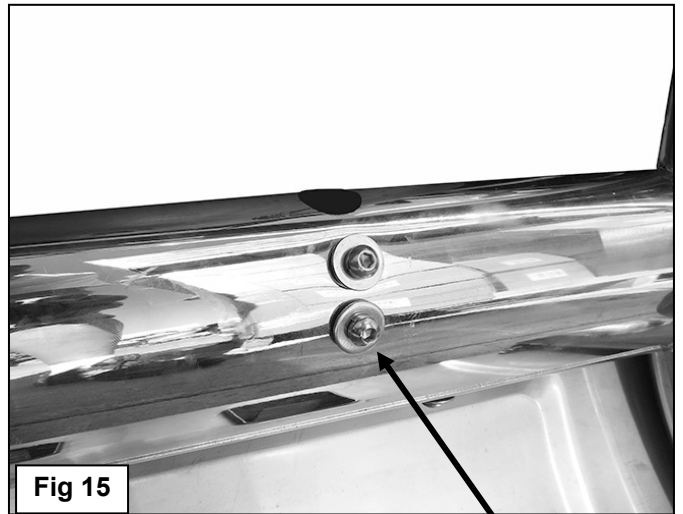

Fig 15
11. Use the included (4) 6mm Button Head Bolts, (4) 6mm Lock Washers and (4) 6mm Flat Washers to plug the (4) threaded holes in the back of the cross bar, (**Figure 15**).